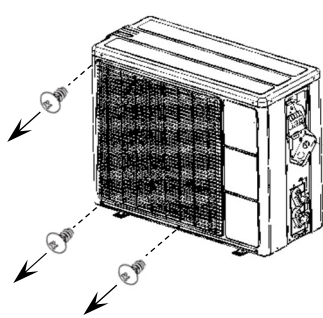
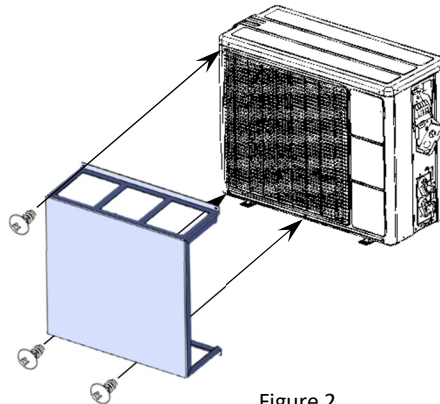

Figure 1
Figure 2
(1) Remove existing screws as shown in Figure 1. (Do not lose the screws.) Using the same screws, locate and secure the wind baffle as shown in Figure 2.